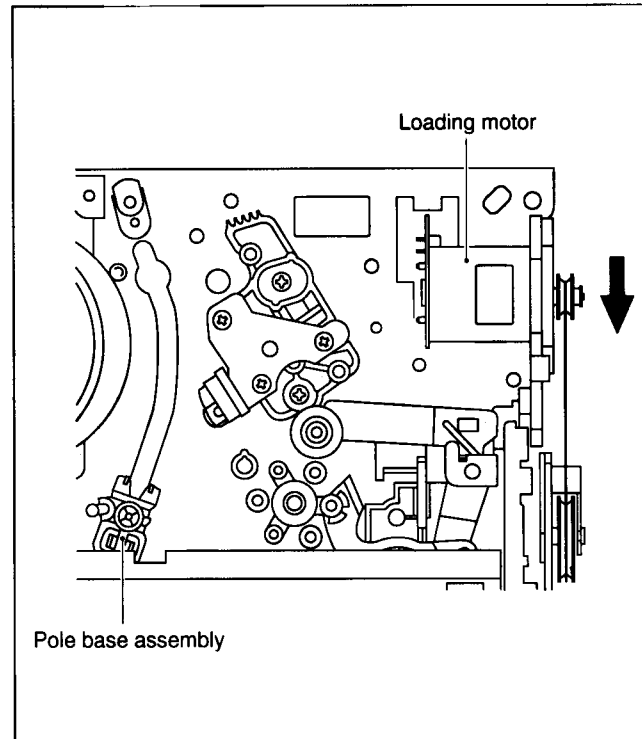
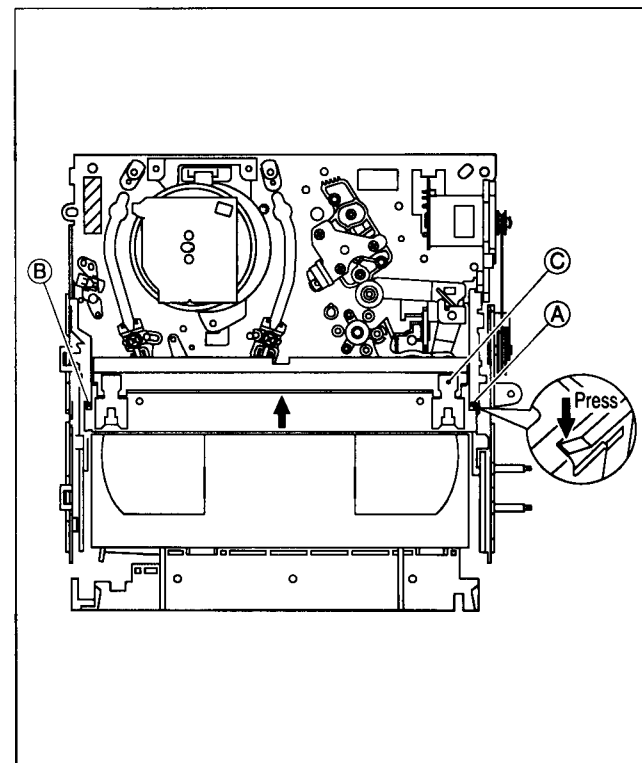

Fig. 2-1-1
Fig. 2-1-2
- (2) Unload the cassette by manually turning the unloading motor of the main deck assembly toward the front. In doing so, hold the tape by the hand to keep the slack away from any grease. (See Fig.2-1-1)
- (3) Bring the pole base assembly (on the supply or take-up side) to a pause when it reaches the position where it is hidden behind the cassette tape.
- (4) Move the top plate toward the drum while holding down the lug **(A)** of the bracket retaining the top plate. Likewise hold part **(B)** down and remove the top plate. The spring plate **(C)** is then brought under the cassette lid. Then remove the top plate by pressing the whole cassette tape down. (Note 1) (See Fig.2-1-2).
- (5) Remove the cassette tape by holding both the slackened tape and the cassette lid.
- (6) Take up the slack of the tape into the cassette. This completes removal of the cassette tape.